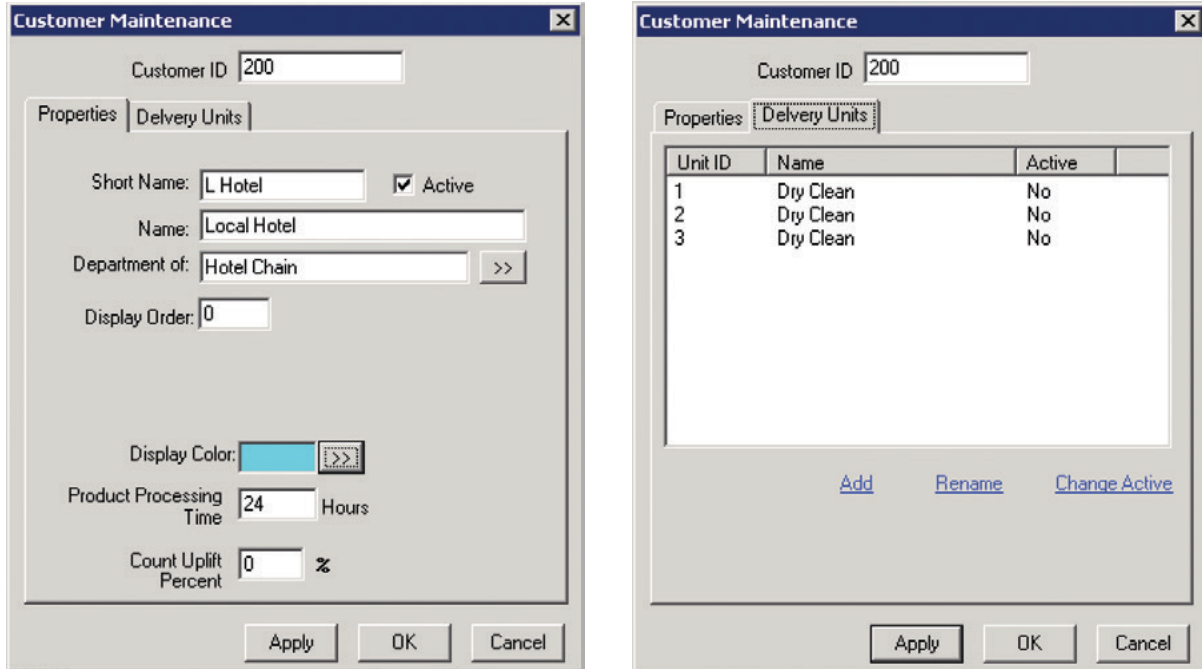

Figure 6. Customer Maintenance dialog: Left, Properties tab. Right, Delivery Units tab.
3. Right-click the highlighted **Customers** folder, and select **New** to open the *Customer Maintenance* dialog (see Figure 6).
3. Modify the information and click **OK** (see Figure 6).